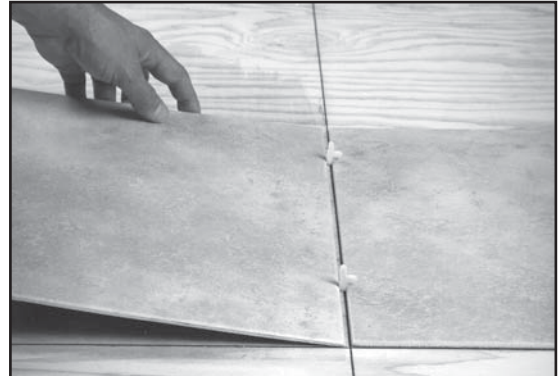
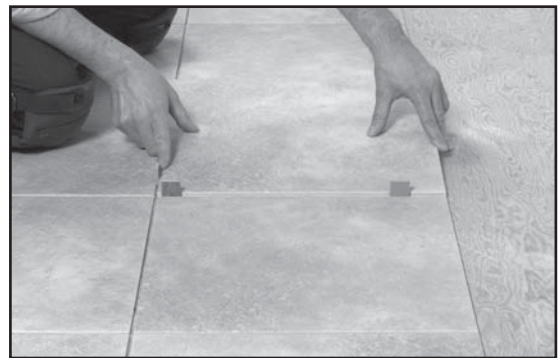

Fig. 13 - Position spacers before setting the tile.
Fig. 14 - Set tile in straight rows.
- Position two spacers along the edge of adjacent tiles, then lay the next tile gently against the spacers without forcing it into place (Fig. 13). Continue to set the tiles in straight rows to complete each section (Fig. 14). Follow the chalk lines to keep the joints straight and make minor adjustments if necessary. Remove the spacers immediately after setting each tile.